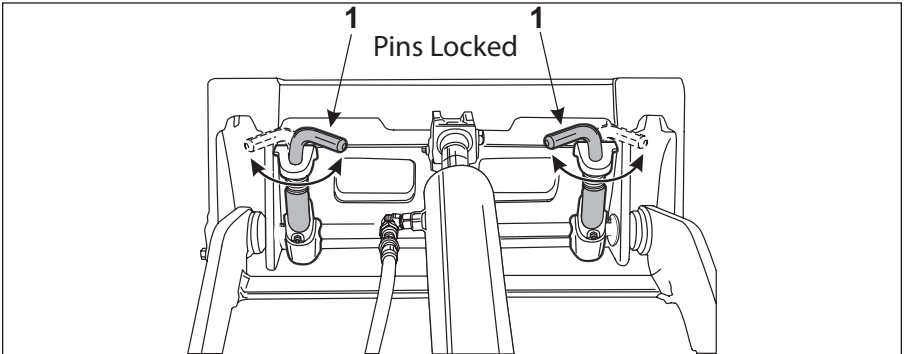

Figure 3-29 Attachment Locks in Locked Position
6. Rotate the attachment lock pins (Item 1, **Figure 3-29**) into the locked position, securing the attachment to the machine.